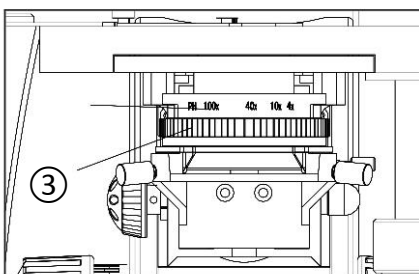

Fig. 16
The aperture size is increased or decreased by rotating the condenser aperture diaphragm ring ③. When the aperture is closed, the brightness and resolution are decreased but the contrast and range of focus are increased. If the aperture diaphragm is opened, the brightness and resolution are increased; however, the contrast and range of focus are diminished. For optimal viewing conditions set the condenser aperture diaphragm lever to match the magnification of the objective in the optical path (Fig. 16).